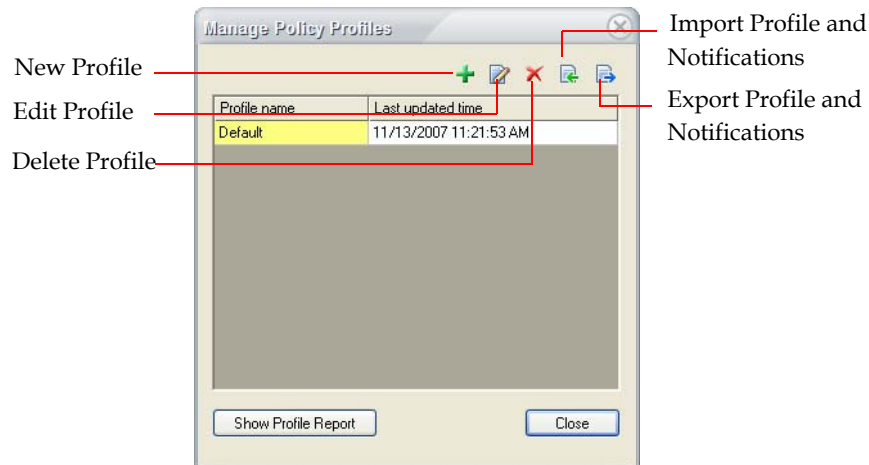

Figure 12-1: Manage policy profiles screen
- 1) From the AirMagnet Enterprise Console screen, click **Manage>Policy Profiles....** The Manage Policy Profiles screen appears. See Figure 12-1.